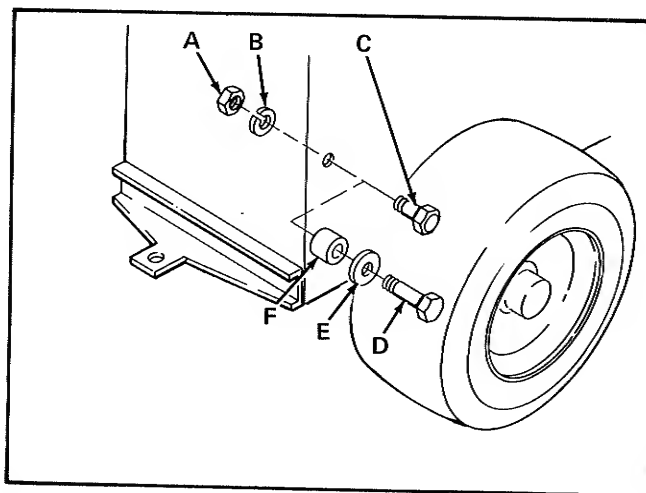

Figure 5. Install Parts On Tractor
1. Two spacers (F, figure 5), one on each side of tractor rear support frame, must be installed. Remove existing nuts, lockwashers, and cap screws (A, B and C) from tractor. For access to nuts on inside of frame, reach up and under the rear frame panel. Install spacers using longer cap screws and flat washers (D and E) supplied with grass catcher and lockwashers and nuts previously removed from tractor.